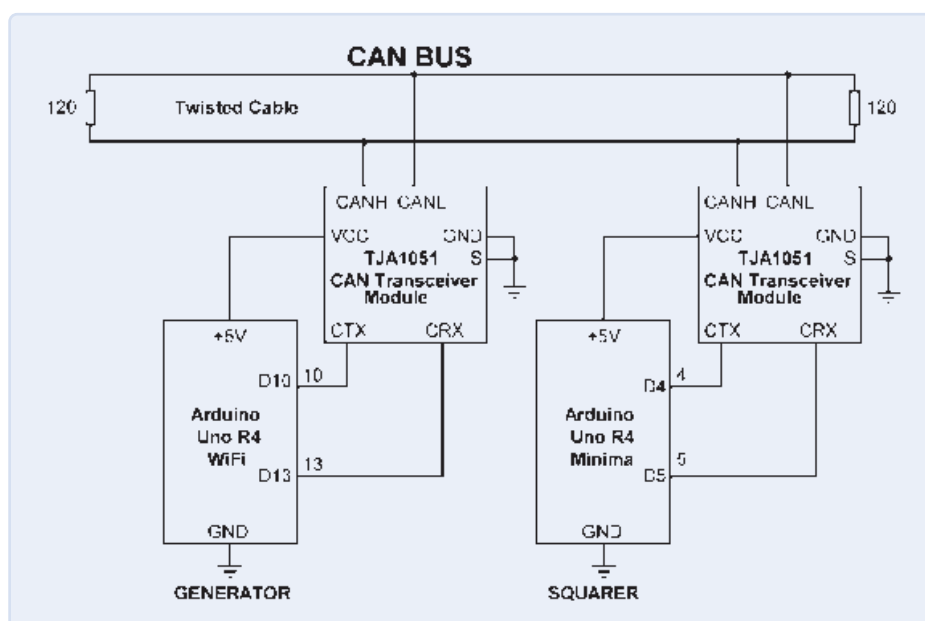

Figure 3: Demo project circuit diagram.
**Figure 3** shows the circuit diagram of the project. Notice that the bus cable is terminated with two 120  $\Omega$  resistors. The CANH and CANL terminals of both transceivers are connected to the bus cable. The CTX and CRX pins of the transceiver module are connected to the Arduino UNO R4 WiFi's D10 and D13 pins. Similarly, the CTX and CRX pins of the other transceiver are connected to the Arduino UNO R4 Minima's D4 and D5 pins, respectively.